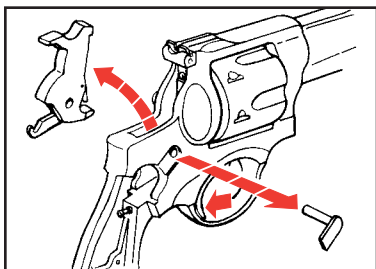

Figure 7
4. With thumb on hammer spur, squeeze trigger allowing hammer to go fully forward. Remove the hammer pivot assembly. With the gun muzzle pointing down, slowly lift the hammer upward and out of the frame (See Figure 7, p. 18). It may be necessary to move the mainspring lever forward in order to cause the hammer link hook to detach from the mainspring lever (See Figure 6 a.). If careful manipulation of the hammer and trigger does not disengage the hook, disengage it with the tip of a jeweler's screwdriver or similar device when the hook is in a near-off position.